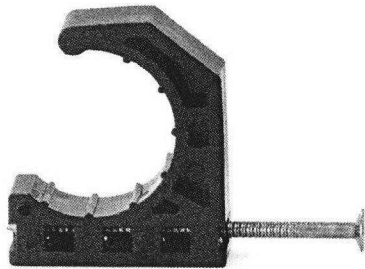

Figure 6-18: Tube talon
1. Uponor recommends plastic tubing supports (tube talons) but metal tubing supports designed for plastic tubing are acceptable and required for exposed applications. Ensure proper orientation of the tube talon as shown in **Figure 6-18**.